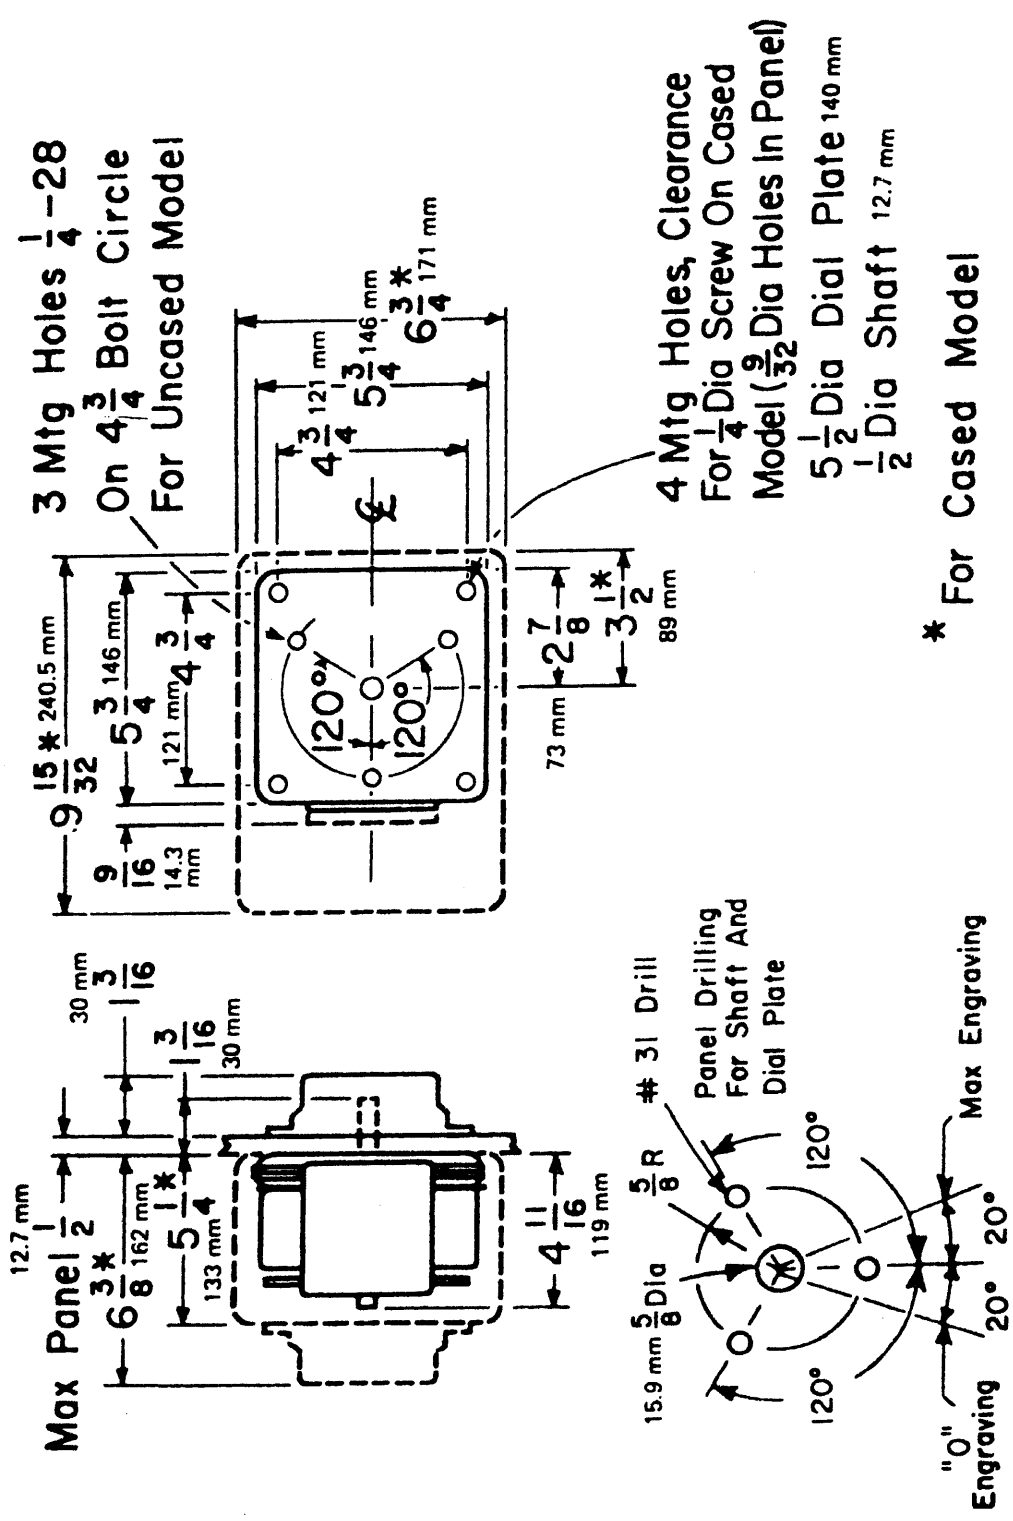

Figure 7. Dimensions of Types W10 autotransformers.
**3.1 GENERAL.** The Types W10M and W10HM models are cased units for either surface or back-of-panel mounting with BX or conduit connections. (See Figure 7.)